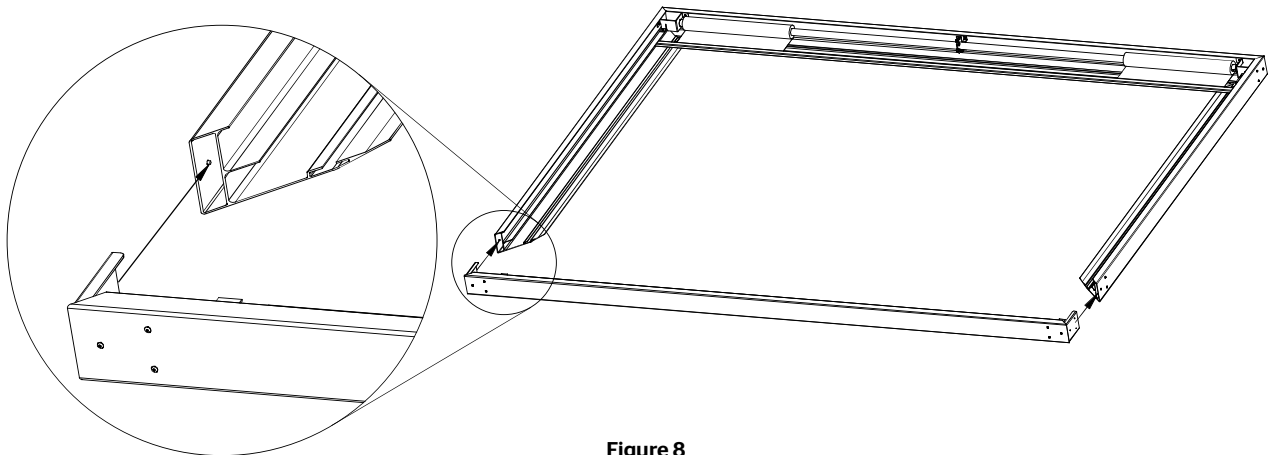

Figure 8
7. Assemble bottom of frame to the right and left sections of frame. This is done by sliding the large black metal L brackets into the aluminum extrusion while the small L brackets will slide in the aluminum channels. Then repeat steps 8 and 9 on each side (Figure 8).